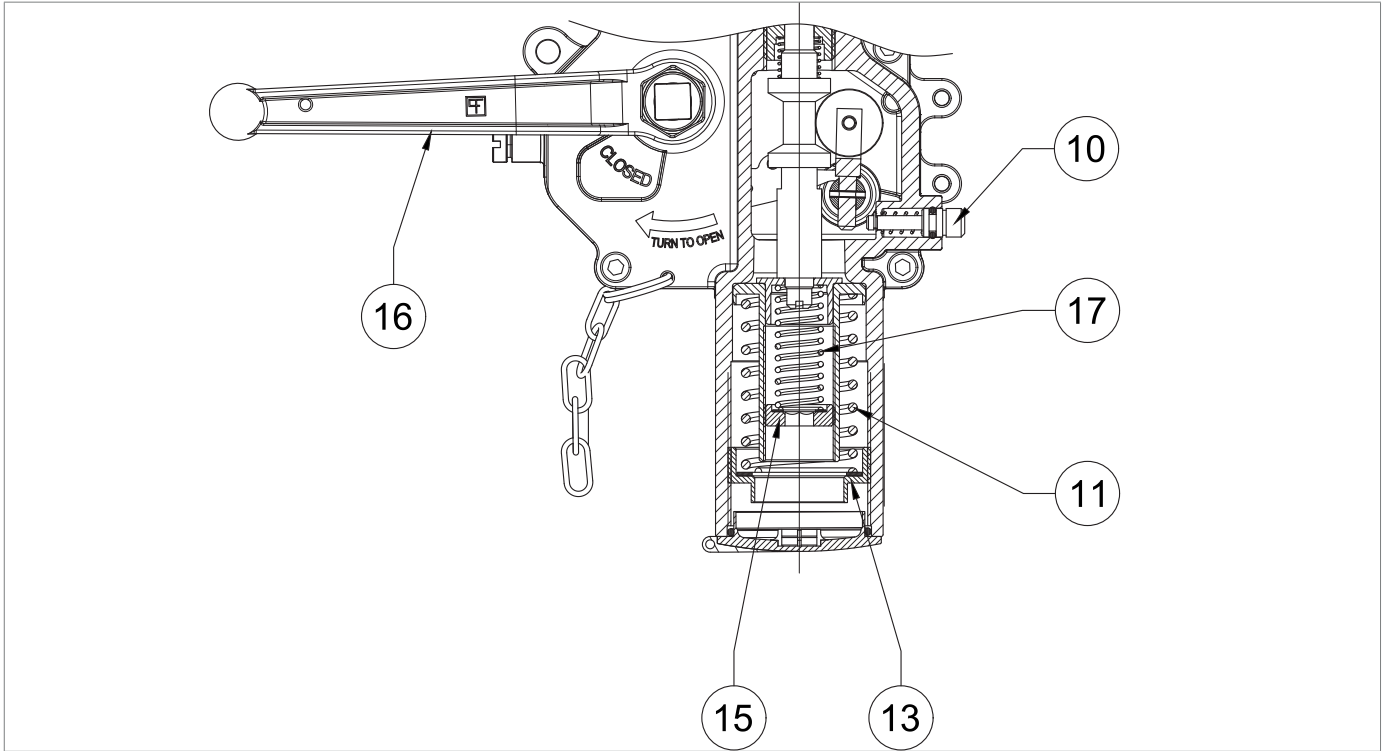

Fig. 8.29 Calibration of pressure switches models SA-91, SA-92, SA-93
5	Open the slam-shut valve from the reset lever (Fig. 8.29, ref. 16).
4	<p>If the slam-shut valve:</p> <ul style="list-style-type: none"> trips before the expected pressure value: screw in (clockwise) the adjustment ring nut (Fig. 8.29, ref. 15) so as to further compress the spring (Fig. 8.29, ref. 17); does not trip at the expected pressure value: unscrew (anti-clockwise) the adjustment ring nut (Fig. 8.29, ref. 15) so as to relieve the spring (Fig. 8.29, ref. 17).
6	Open the slam-shut valve by acting on the reset lever (Fig. 8.29, ref. 16) and hold it open manually.
7	Turn the adjustment screw (Fig. 8.29, ref. 10) clockwise to increase the downstream pressure to the pilot setting value.
8	Arming the slam-shut valve by acting on the reset lever (Fig. 8.29, ref. 16).